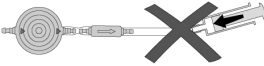

Fig. 19: Avoidance of pressurisation
- ▶ **Pressurisation with a single-use syringe should be avoided both at the proximal and the distal end (Fig. 19).**